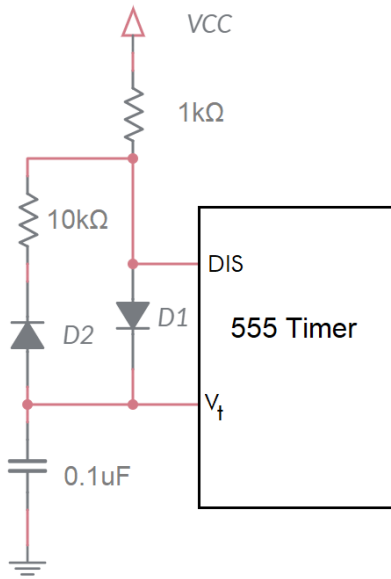
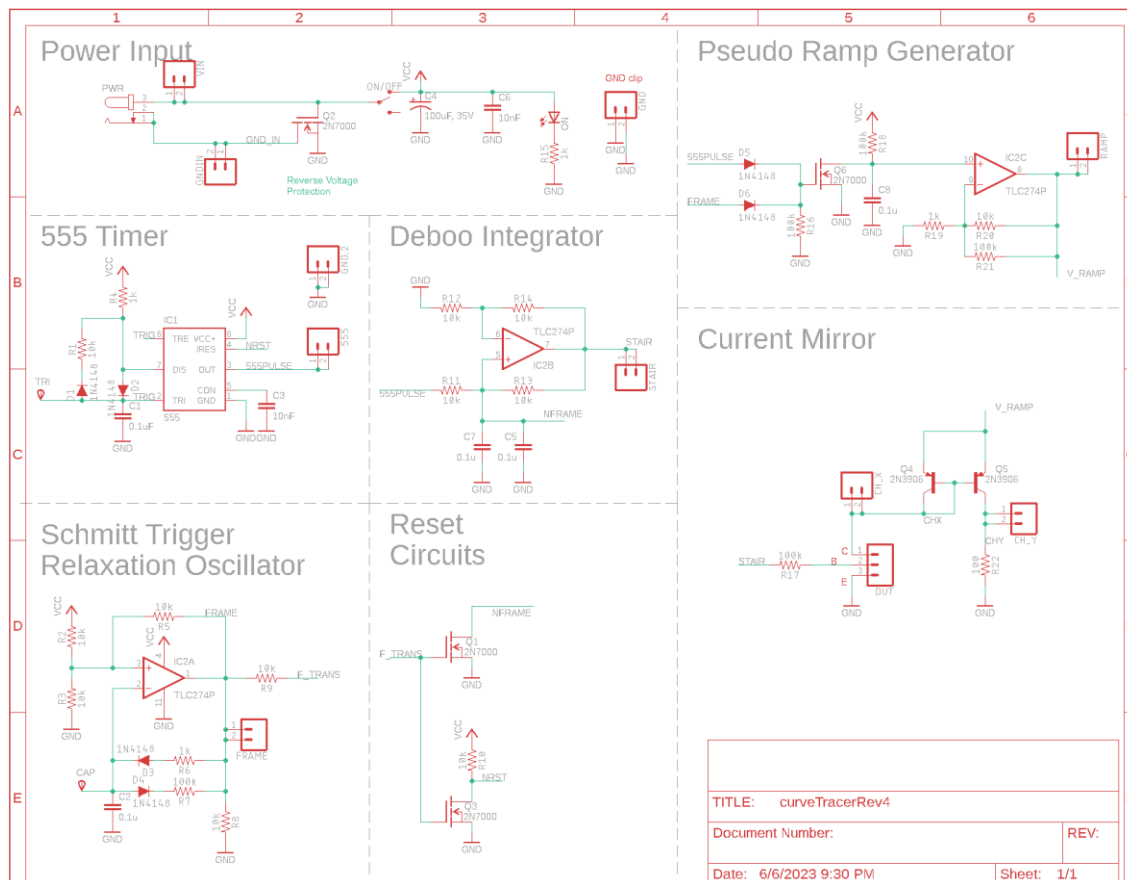

Figure 4: The circuit in Figure 1 with the 555 Timer replaced with the two signals examined in Figure 3.
Figure 7: The schematic for the BJT curve tracer.
With our new understanding of the 555 Timer, let’s return to the circuit shown in Figure 1 so that we can understand the role of the external components in the operation of the circuit. We will approach this question by replacing the 555 Timer with the V_t and DIS signals examined in Figure 3. The resulting circuit, shown in Figure 4, contains resistors, capacitors, a 555 Timer, and D1, D2, diodes. We will study diodes in much more detail later, but for now, consider them as circuit elements allowing current to flow in one direction as indicated by the triangle. So, for example, D1 will only allow current to flow downwards and D2 will only allow current to flow upwards.
Now, you will use the information from Figure 3 to determine to describe what the external circuit in Figure 4 functions like as V_t changes. Complete the sentence or write an expression for each of the bulleted items in questions 4 and 5. When two **bold** choices are separated by a “/”, replace them with the correct answer. Fill in underlines with values.
4. Determine the circuit behavior in Figure 4 when V_t is between 0V-3V.
5. Determine the circuit behavior in Figure 4 when V_t is between 6V-9V.
This week, you will be soldering in the components associated with the POWER INPUT, 555 TIMER subsystems shown in the Figure 7 schematic. It is important you do not solder in any of the other components in any of the other subsystems. This lab document contains cursory coverage of the assembly process. You can find much more detail in the Assembly Guide posted on Canvas.
The POWER INPUT area of the schematic in Figure 7 enables you to supply power to the BJT curve tracer board from either an power jack or through the VIN and GND terminals. A SPDT slide switch allows the user to turn the BJT curve tracer on or off while leaving the power input connected. An indicator LED confirms the BJT curve tracer is powered on when it is illuminated. A pair of capacitors smooths out the power delivered to the BJT curve tracer. Finally, a MOSFET disconnects the power input if you accidentally reverse the positive and negative power leads. You will learn more about this MOSFET in a later lab.
The 555 TIMER subsystem in Figure 7 is identical to the circuit analyzed in in Figure 4.
Most of the parts in this schematic have a designator and a value. The designator is a letter followed by a number. The designator letter tells you what type of part it is, “R” for resistor, “C” for capacitor, etc. The designators on the PCB match those on the schematic in Figure 7. This provides you with a means to find a part. You should take a moment to notice parts which are logically related in the schematic are physically proximal on the PCB.